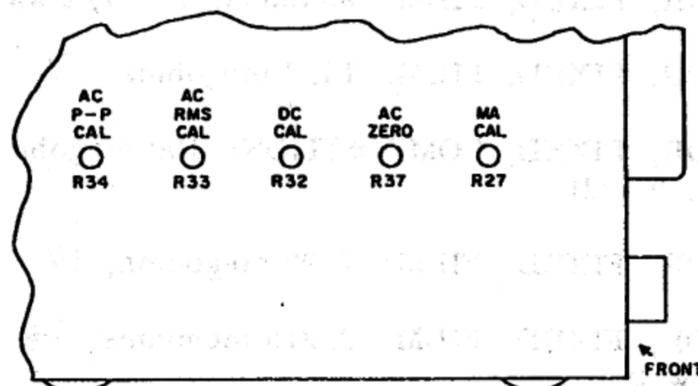

Figure 11. Calibration Controls
6. Adjust the DC CAL (R32 - screwdriver adjustment on side of case) for a METER indication of 0.5 volt. See figure 11.
17. Adjust MA CAL (R27) for an 0.5 MA indication on the METER. See figure 11.